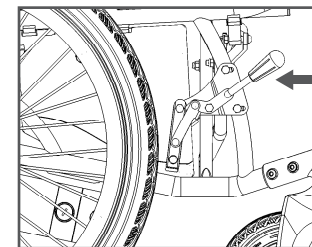

Figure 18
- When you stop on an incline, if the electromagnetic brake breaks down or the motor is in the "Manual" position or other special conditions occur, you can pull the hand brake in the direction as shown in Figure 18.